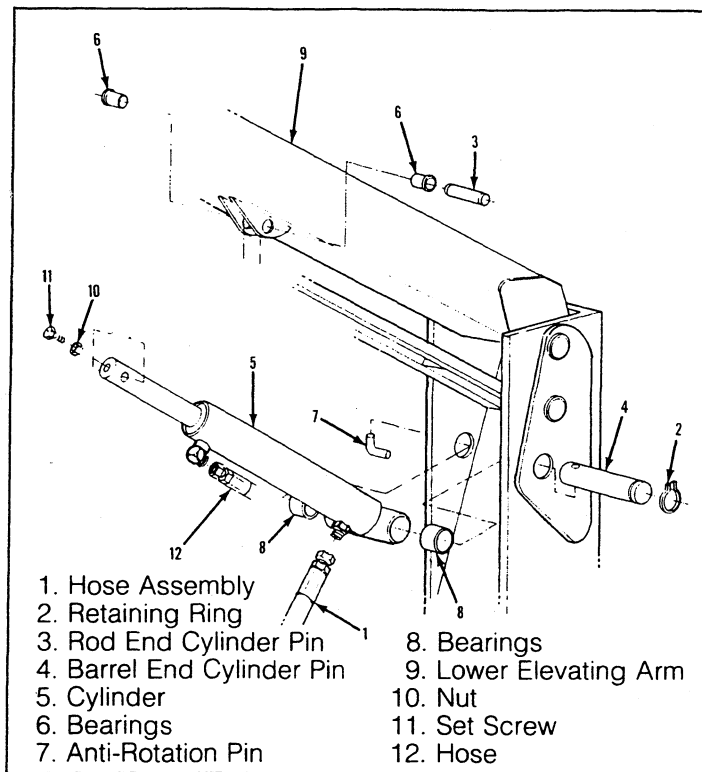
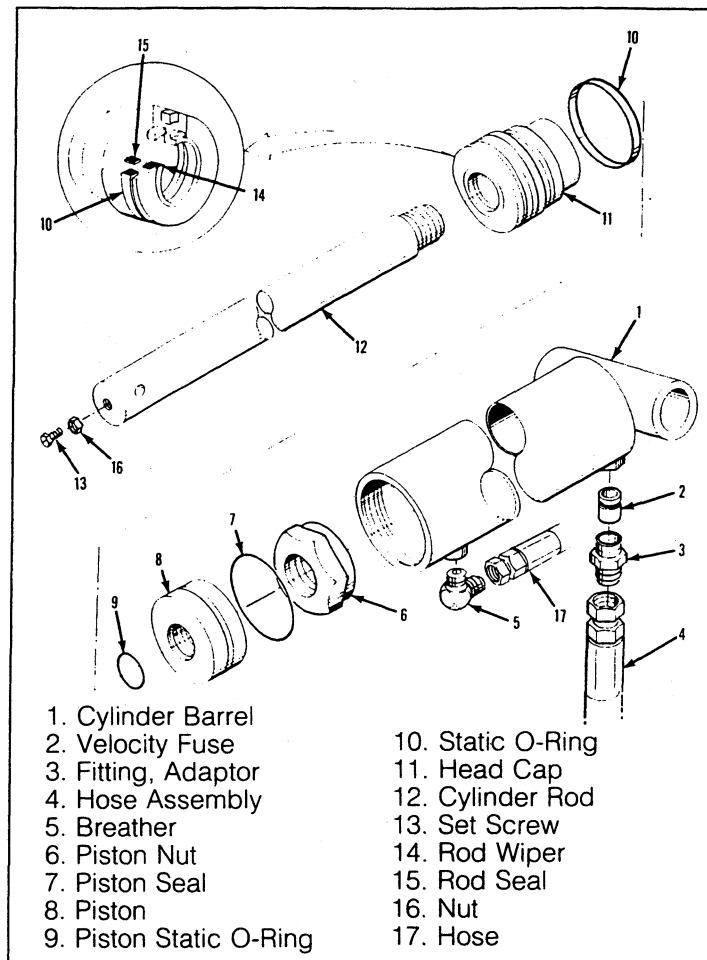

Figure 5-14. Lift Cylinder Removal
Figure 5-15. Lift Cylinder Disassembly/Assembly
a. Removal (Figure 5-14).
- (1) Block elevating assembly per paragraph 5-5.
- (2) Remove hose assembly (1) and plug openings.
- (3) Remove retaining rings (2,3) from cylinder pins (4,5) and set screw (6) from end of cylinder rod.
- (4) Place a 2 foot long 2 x 4 across module covers.
- (5) Support rod end of cylinder and remove rod end cylinder pin (4) and let cylinder down to rest on 2 x 4.
- (6) Support barrel end of cylinder and remove barrel end cylinder pin (5).
- (7) Lift cylinder from work platform.
b. Disassembly (Figure 5-15).
- (1) Unscrew the head cap (11) from the cylinder barrel (1).
- (2) Remove the piston and rod assembly from the cylinder barrel.
- (3) Unscrew the piston nut (6) and remove piston (8) and head cap (11) from the piston rod (12).
- (4) Remove the piston static O-ring (9) from the cylinder rod (12) and discard.
- (5) Remove the piston seal (7) from the piston (8) and discard.
- (6) Remove the static O-ring (10), rod seal (15) and rod wiper (14).
- (7) Remove the rod end breather (5).
- (8) Do not remove the velocity fuse (2) unless replacement is necessary.
c. Cleaning and Inspection (Figure 5-15).
- (1) Clean all the metal parts in cleaning solvent and blow dry with filtered compressed air.
- (2) Check the working surfaces of the piston (8), head cap (11), cylinder barrel (1) and rod (12) for excessive wear or scoring.
- (3) Replace parts found to be unserviceable.
- (4) Replace all seals, O-rings and wipers.
d. Reassembly (Figure 5-15).
- (1) Lubricate the static O-ring (10), rod seal (15) and rod wiper (14) and then install in the head cap (11).
- (2) Install the piston seal (7) on the piston (8).
- (3) Install the head cap (11), piston static seal (9), piston (8) and piston nut (6) on the cylinder rod (12). Torque nut to 70 ft. lbs.
- (4) Lubricate and piston seal (7) and install the piston and rod assembly into the cylinder barrel (1).
- (5) Screw the head cap (11) into the cylinder barrel (1) hand tight and then turn 1/4 turn further.
e. Installation (Figure 5-14).